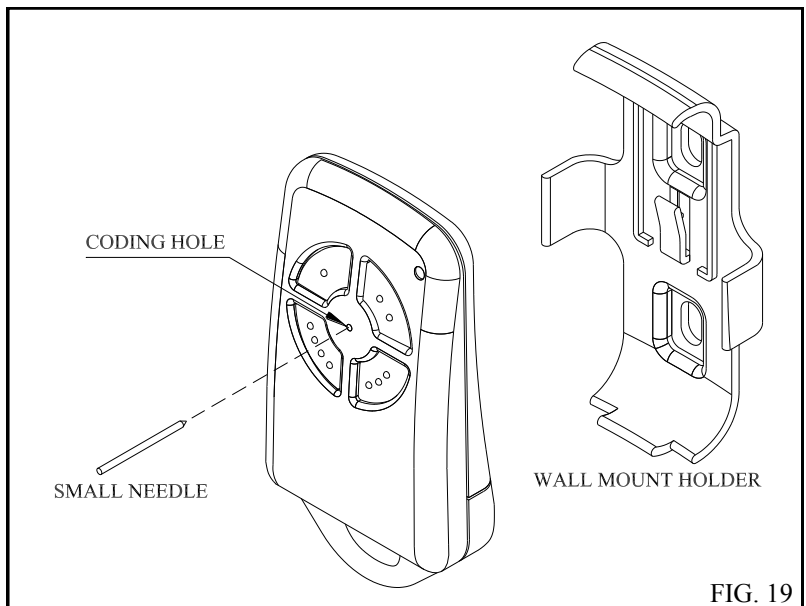

FIG. 19
2. Then using a small needle press and hold firmly for 2 seconds through the **Coding Hole** (Fig 19)
1. Mount the holder in a location out of reach of children and convenient to the customer. (Fig 19)